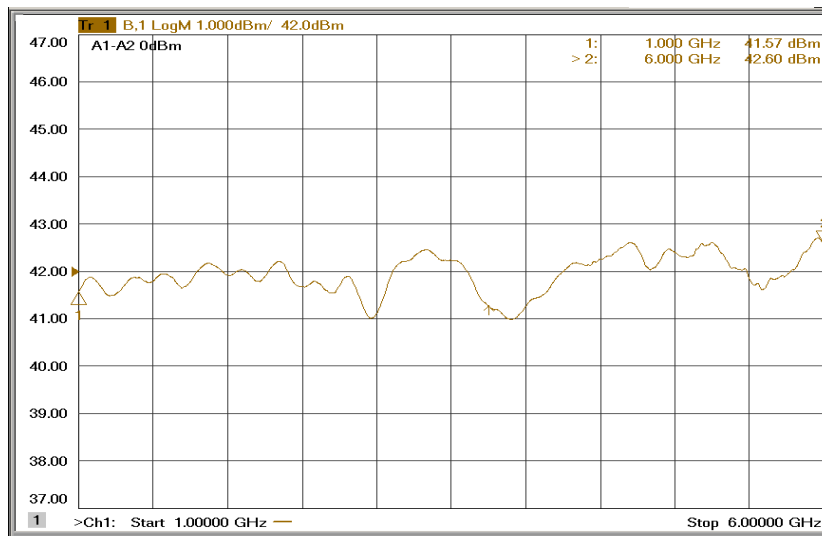

Figure 4-5. Typical A1 Pre-Amp and A2 Quad Amp Driver Response
4. The Typical response for the A1 Pre-Amp and A2 Quad Amp Driver is shown in Figure 4-5.